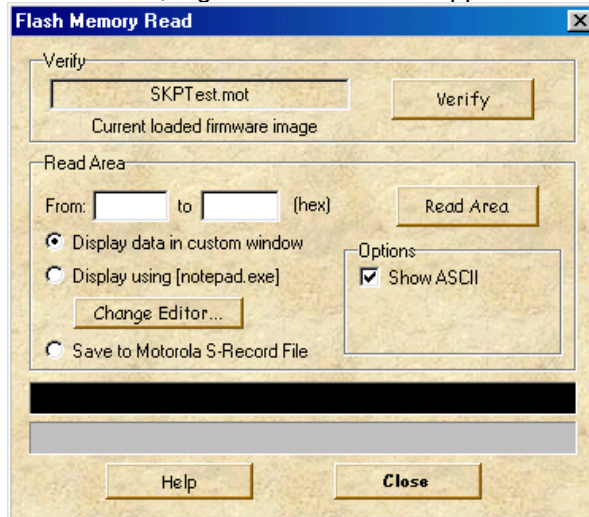

Figure 4-7 Flash Memory Read screen-1
(1) Click the "READ" button, Figure 4-7 screen will appear.